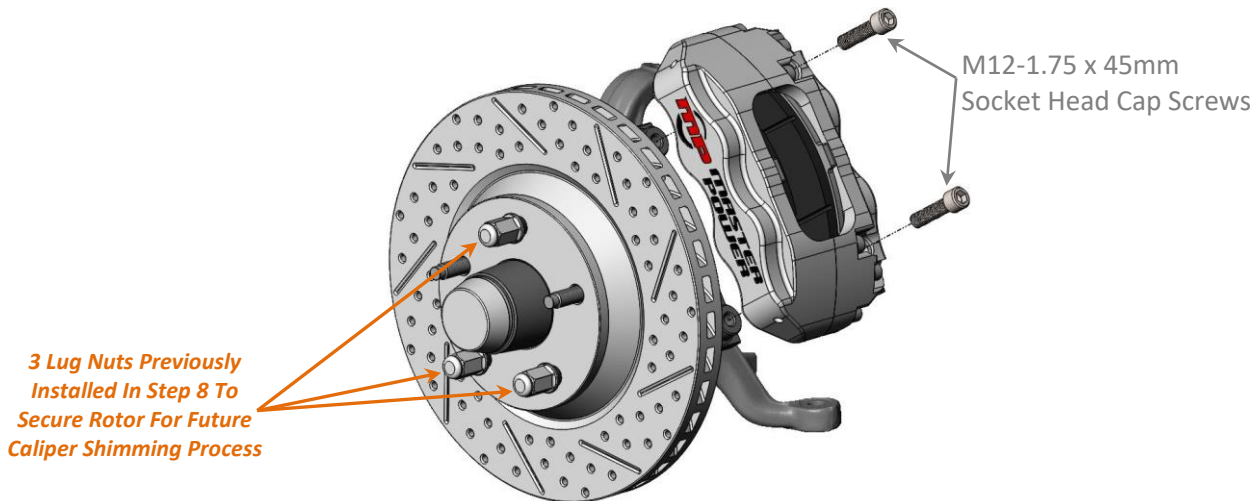

Figure 7 – Caliper Installation (LH Shown)
10. Next, remove the brake pads and place the brake caliper onto the radial mount bosses of the Primary Caliper Mounting Bracket, securing it with the supplied M12-1.75 x 45mm Socket Head Cap Screws. Make sure the bleeder screw is pointed upwards. **Only snug the bolts for now because of future caliper shimming process.** Refer to Figure 7 below for reference.